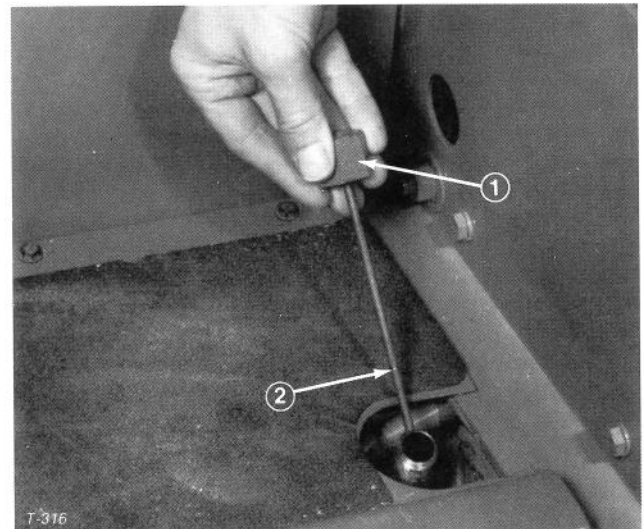

Figure 19
2. Unscrew dipstick cap (Fig. 19) from filler neck and wipe it with a clean rag. Screw dipstick cap finger-tight onto filler neck. Unscrew the dipstick and check level of oil. If level is not within 1/2 inch (13 mm) from the groove in the dipstick (Fig. 19), add enough oil to raise level to groove mark. **DO NOT OVERFILL** by more than 1/2 inch (13 mm) above groove.